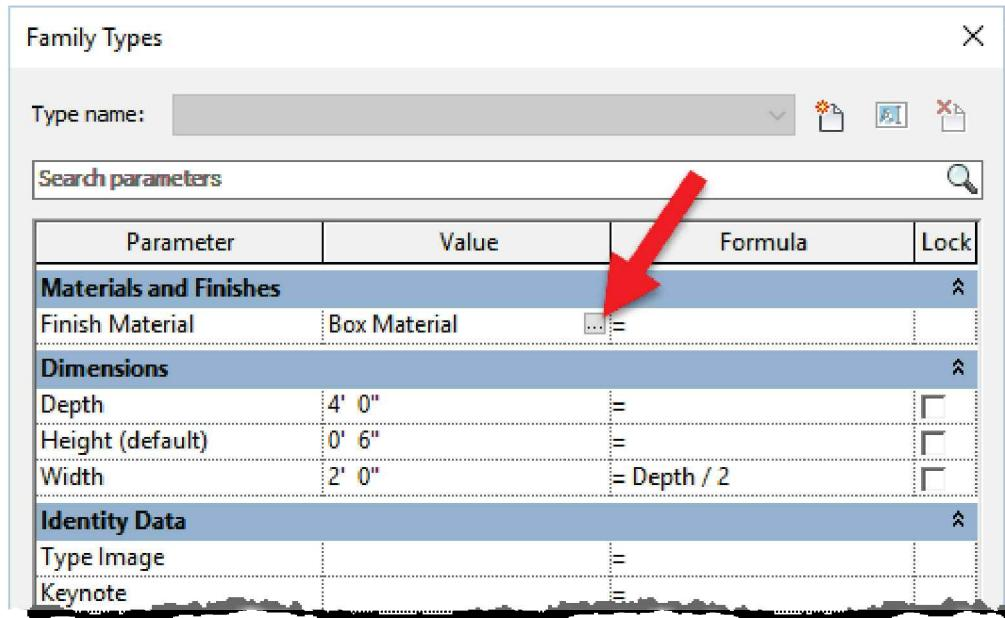

FIGURE 17-4.17 Setting material for new parameter
33. In the *Family Types* dialog, change the “value” for **Finish Material** to **Box Material**. (See Figure 17-4.17.)